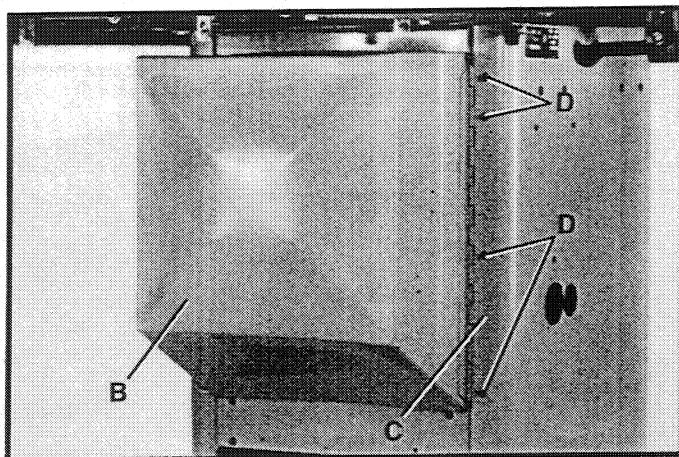

Fig. 51
2. Assemble hinged side (C) Fig. 51, of motor cover (B) to right side of saw cabinet using four 1/2" long self-tapping screws (D), as shown.